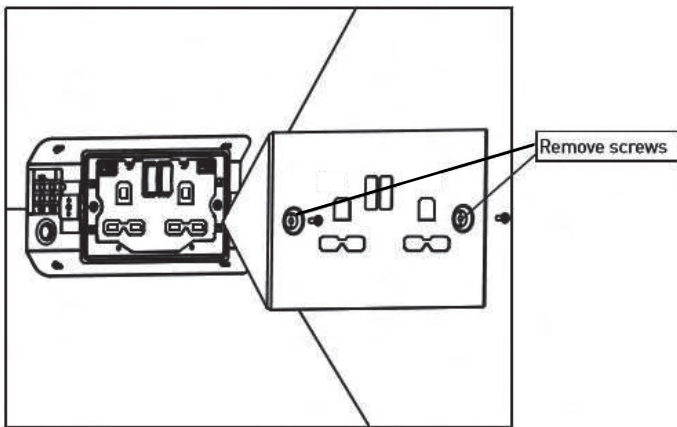

Fig. 1
- Remove the screws on the front cover using a slotted screwdriver (see Fig. 1)